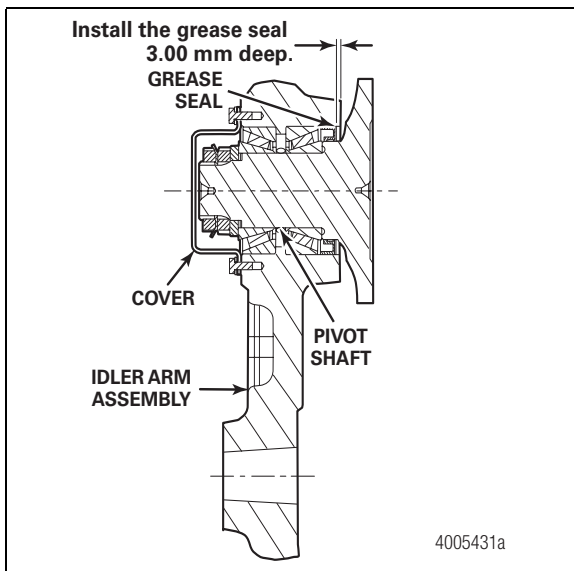

Figure 7.19
4. Install the grease seal 0.118-inch (3 mm) into the idler arm. Figure 7.19.